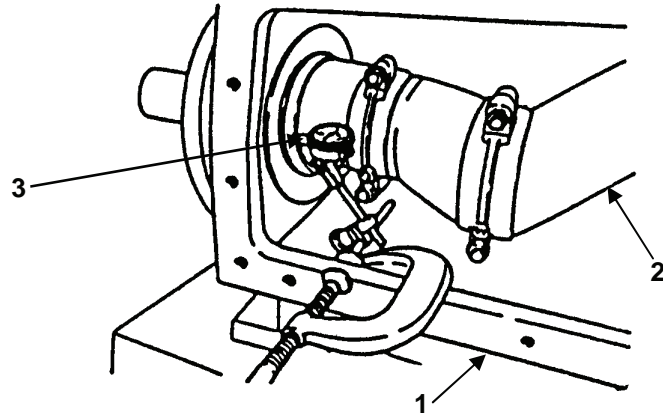

Figure 2. Crankshaft End-Play.
9. Install sleeve bearings (8) on connecting rods (7). Push connecting rods (7) and connecting rod bolts (19) all the way into cylinders for ease in crankshaft installation.
10. Install gasket (14), shim (15) and bearing housing (12) (in that sequence) on pump case. Install capscrews (10) and tighten to 55 lb-ft (75 N•m).
11. Carefully install crankshaft (9) in the pump case through the side bearing bore.
12. Carefully put crankshaft (9) in position against the bearing housing and install gasket (14), shim (15) and bearing housing (13).
13. Install capscrew (11) and tighten to 55 lb-ft (75 N•m). Spin crankshaft (9) to seat the bearings.
- a. Place a dial indicator on the pump case (1) (Figure 2) and against crankshaft (2).
- c. Set the dial indicator (3) to zero.